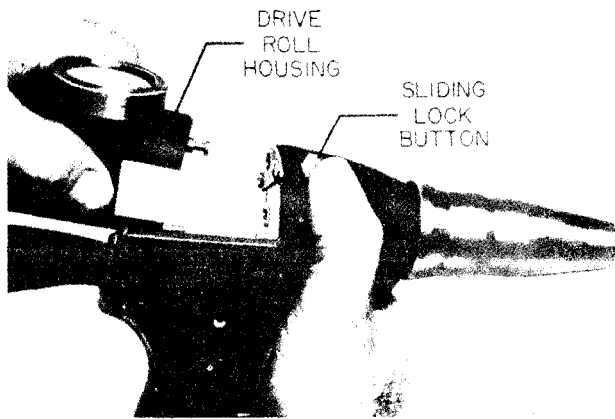

Figure 4. Removing Drive Roll Housing
- Press down lock button (Fig. 4) on right side of Gun and slide off drive roll housing.
- a. Press down lock button (Fig. 4) on right side of Gun. Slide off drive roll housing.
a. Press down lock button (Fig. 4) on right side of Gun. Slide off drive roll housing,